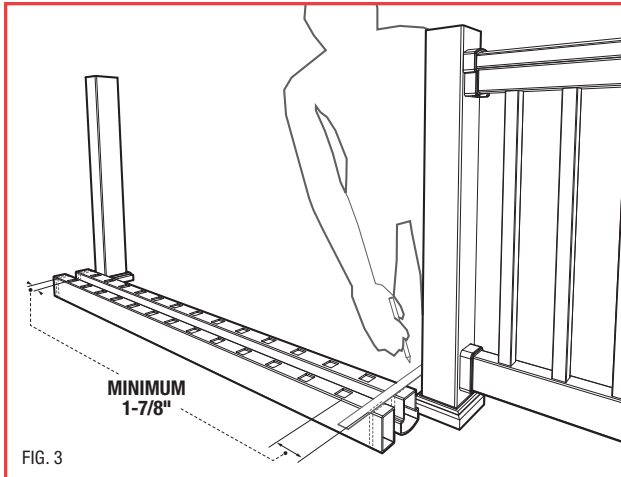

FIG. 3
3. Lay the bottom rail beside the posts with the pre-routed baluster holes facing upward and evenly spaced. Mark the rail with an additional 1/8" removed from each end to compensate for the metal brackets. (Fig. 3)
4. Lay the top rail beside the bottom rail with baluster holes aligned. Mark and cut the top rail to match the bottom rail length and end spacing. (Fig. 3)
4. Mark the required rail length with an additional 1/8" removed from each end to compensate for the metal brackets. (Fig. 3)